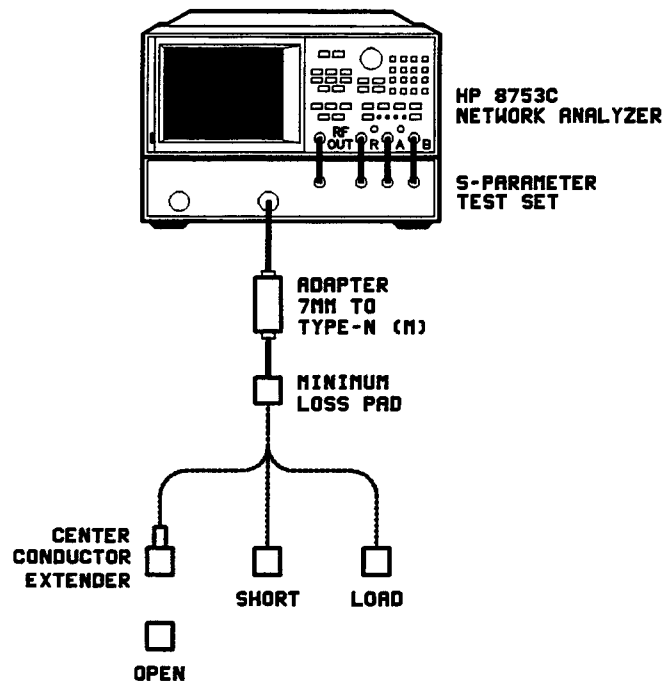

Figure 3-4. Equipment Setup for a S₂₂ 1-Port Measurement Calibration
5. When prompted, connect the standards as shown in Figure 3-4.